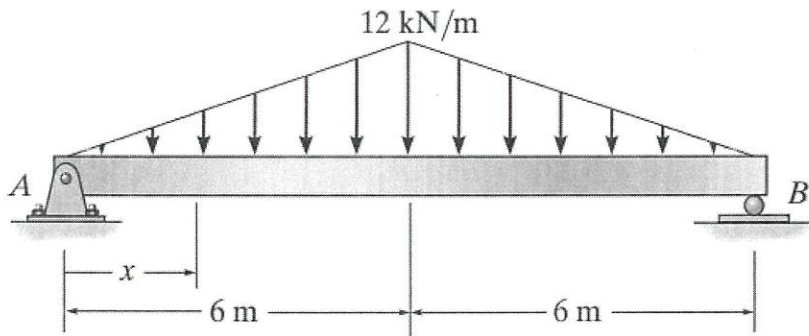

Figure Q2(b)
- (b) The wing spar of Pilatus PC-12 is subjected to a triangular distributed loading as shown in **Figure Q2(b)**. Determine: